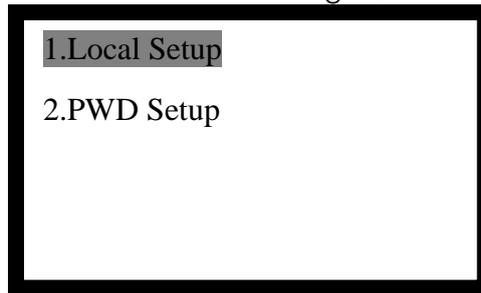
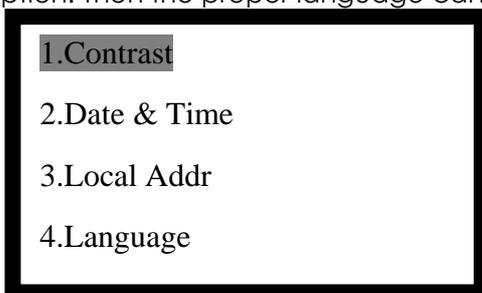
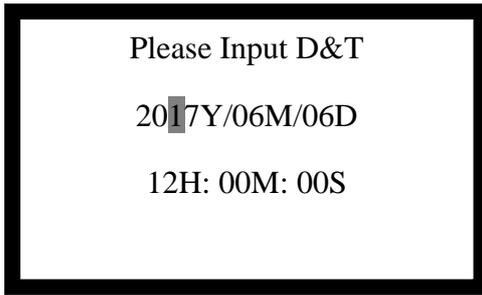
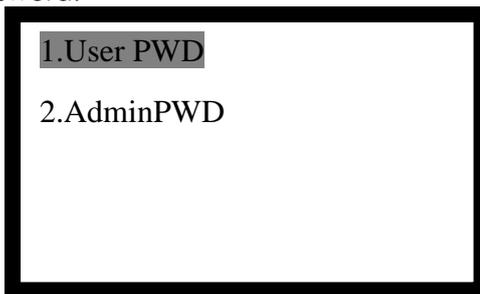

Fig. 4-23
Fig. 4-24
Fig. 4-26
Fig. 4-28
Selecting "4.System Setup" in Fig.4-1 enters the screen of Fig.4-23 showing two sub-menus.
Selecting "1.Local Setup" in Fig.4-23 enters the screen of Fig.4-24 showing four sub-menus.
- Selecting "2. Date & Time" in Fig.4-24 and entering the user password shows the screen of Fig.4-26. Pressing **【▲】** and **【▼】** move the cursor to the position of year, month, date, hour, minute, or second. Enter the actual value (if the entered value is illegal, it cannot be saved) . Press **【Menu/Enter】** to save the modification and exit. Press **【ESC】** to cancel the operation.
Selecting "2. PWD Setup" in Fig.4-23 enters the screen of Fig.4-28.